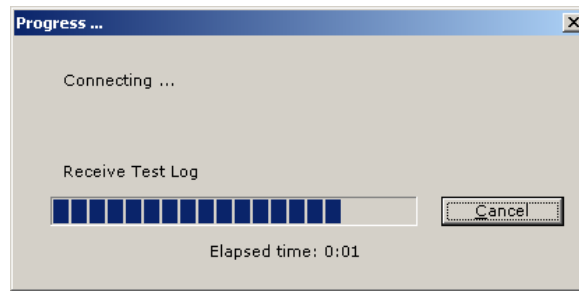
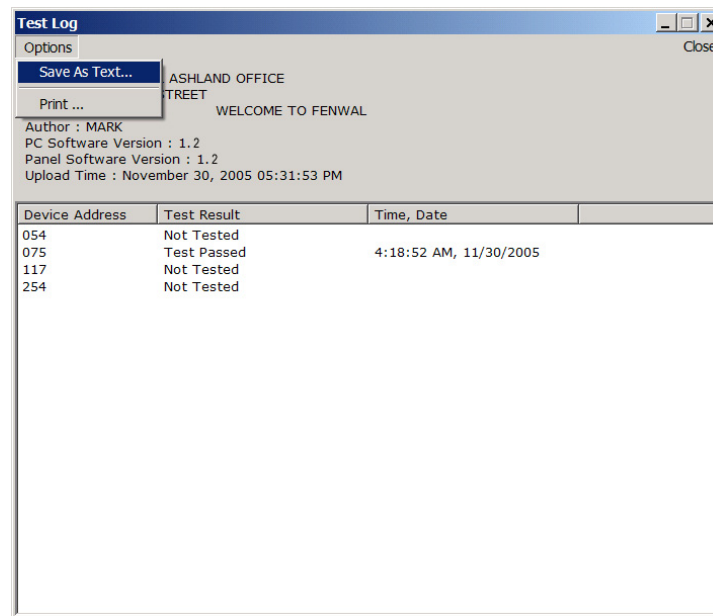

Figure 4-32. Receive Test Log Progress
Figure 4-33. Test Log Screen
4. Select **<OK>**. In response, progression the test log download (Figure 4-32) is displayed. When download is complete, the test log (Figure 4-33) is displayed. Within the test log, there are two menu options: Save As and Print.